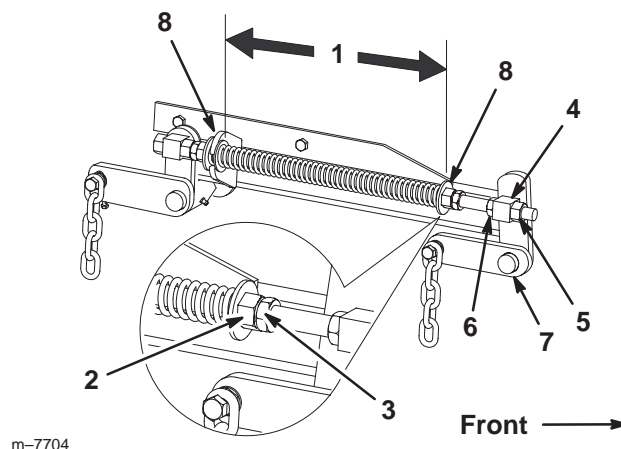

Figure 54
7. Loosen the front swivel jam nuts, at the front of the right and left swivels, approximately 1/2 inch (13 mm) (Fig. 54).
8. Adjust the lift nuts on both the left and the right side of the machine to achieve **1/4 to 3/8 inch (6 to 10 mm) lower in front at A than in the rear at B** (Fig. 54).
1. Raise the mower lift lever to the transport position (Fig. 54).
2. Check the distance between the 2 large washers; it must be 10-1/4 inches (26 cm) (Fig. 54).
3. Adjust this distance by loosening the spring jam nut and turning the nut in front of each spring (Fig. 54).
4. Lock the nut into position by tightening the spring jam nut (Fig. 54).